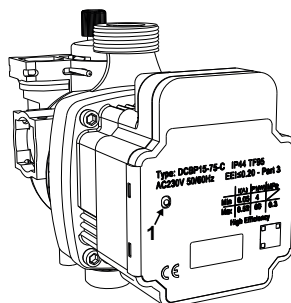

fig. 17
There is a **LED** (ref. 1 - fig. 17) that indicates the circulating pump operating mode. In case of a fault, the **LED** will provide diagnostics of the possible cause, based on the number of flashes.